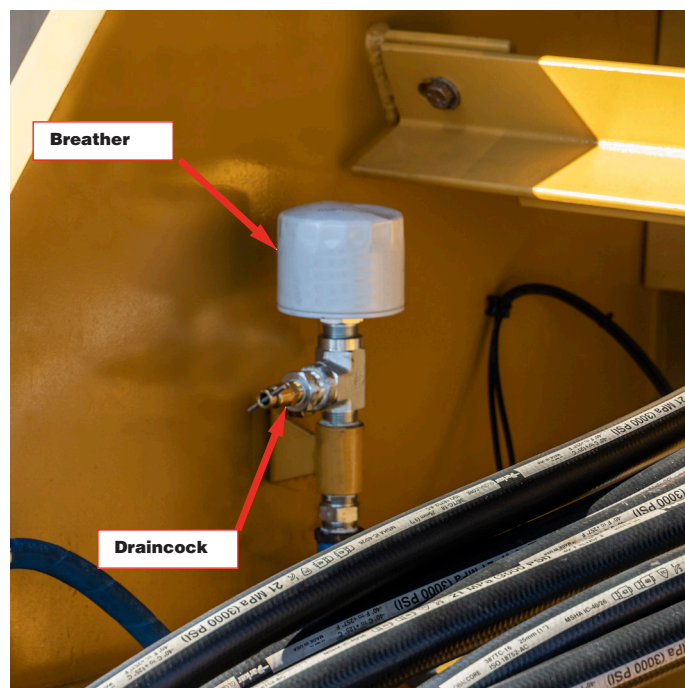

Figure 5-5-12 Hydraulic Tank Breather
3. Relieve pressure in the tank by opening the draincock. See Figure 5-5-12.